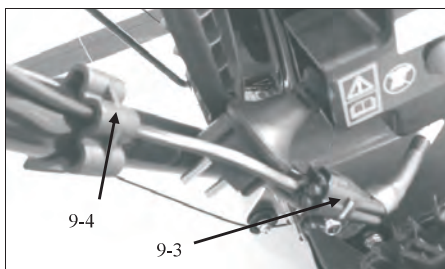

Fig. 9B
2. Connect with power supply(9-3) and into clamp(9-4). (Fig. 9B)